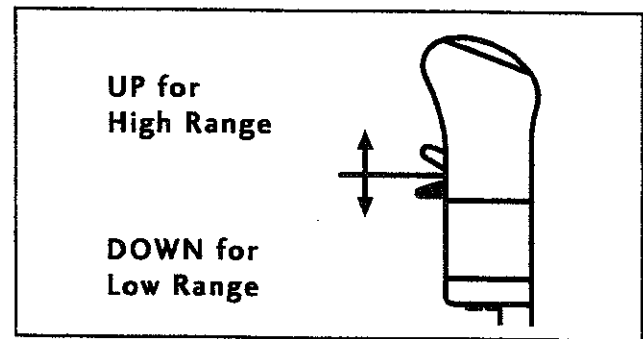

Figure 3
2. With the clutch pedal fully depressed to engage the clutch brake (See "Trucking Tips: Clutch Brake"), position the range selector to low range (Figure 3). Move the gear shift lever into 1st gear.